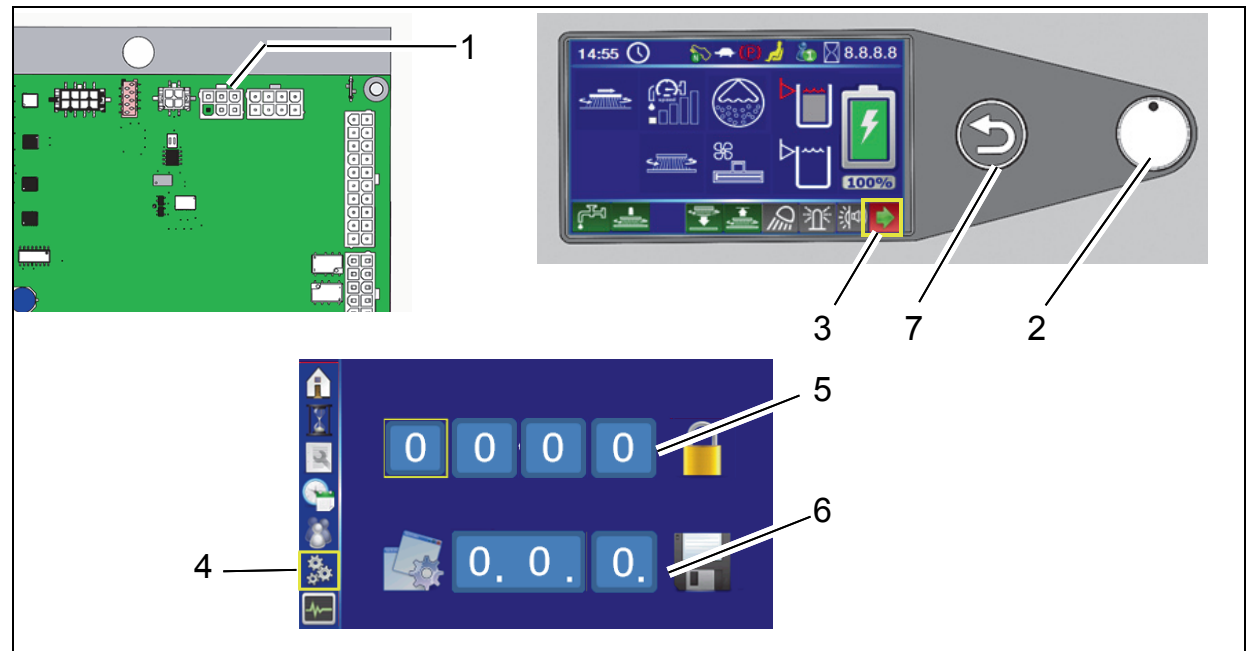

Fig. 5
Plug diagnosis plug into slot X20 of controller A1 (Fig. 5/1).
2. Select the arrow soft key (Fig. 5/3) on the control panel using the turn-push knob (DDS)(Fig. 5/2) and press to access the sub-menu.
3. Select the configuration menu in the sub-menu (Fig. 5/4).
4. Enter the 4-digit code in the configuration menu at the top (Fig. 5/5):
5. In the configuration menu at the bottom (Fig. 5/6), set the value of the option and save by pressing the DDS. After confirming the last digit, **OK?** appears. Press DDS again to save the value. Saved value is displayed in green. If the value is not to be saved, exit menu using the return key (Fig. 5/7).